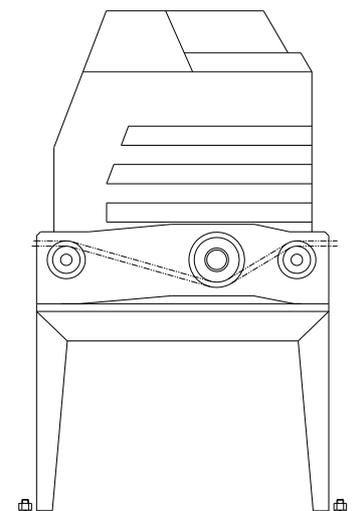

Fig.3
Make sure the ends of the guide chain are out of the chain holes on both sides of the chain box. Remove the cover and insert the manual release key and turn counter-clockwise to disengage the clutch. Remove the elastic band from the shaft and line up the key on the shaft with the sprocket at the chain box. Insert the sprocket from the chain box into the operator shaft. Place the operator on top of the bracket and use (4) 5/8 " (M8x15mm) socket head cap screws to mount the chain box in to the bracket. See Fig.3